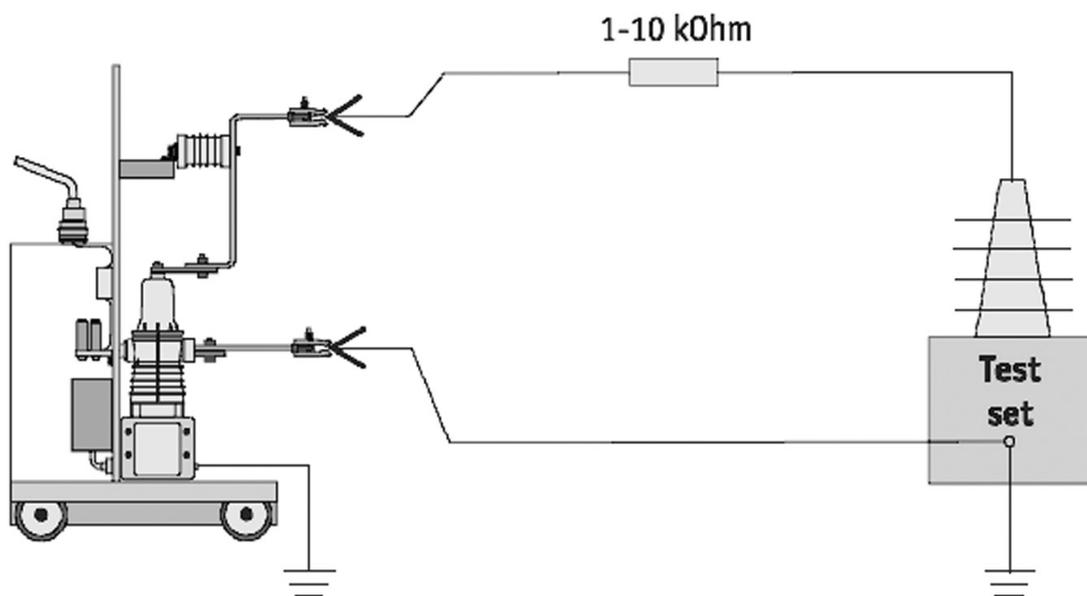

Figure 172
- 5) To apply test voltage single-core short cables should be used. Application of high voltage coaxial cables is strictly prohibited. To coordinate the surge impedance between the test set and ISM extra resistor as shown in the Figure 172 shall be used.
4) To apply test voltage the single-core short cables should be used. Application of high voltage coaxial cables is strictly prohibited. To coordinate the surge impedance between the test set and ISM extra resistor as shown in Figure 172 shall be used.